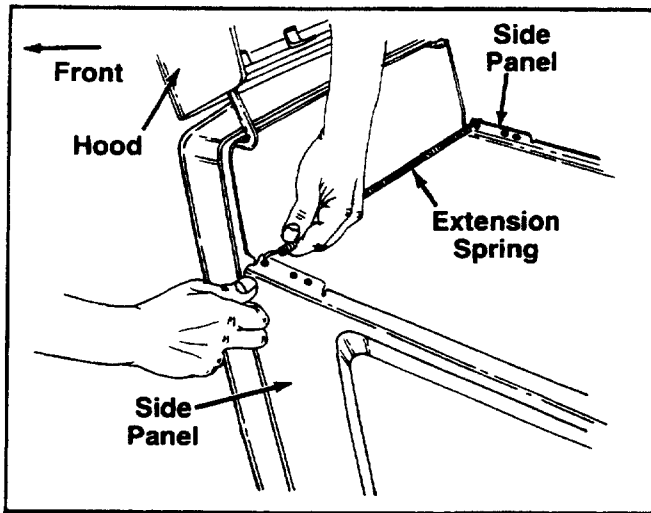

FIGURE 5.
1. Remove the two side panels from tractor, by opening the hood and removing the extension spring, flat washer and wing nut on each side. See figures 5 and 6. Retain spring and hardware for re-assembly.